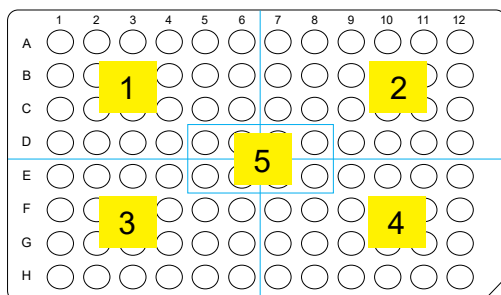

Figure 4 The 5 plate sectors.
- Vortex deepwell plates for 5 seconds in each of the 5 sectors. See the sectors in Figure 4.